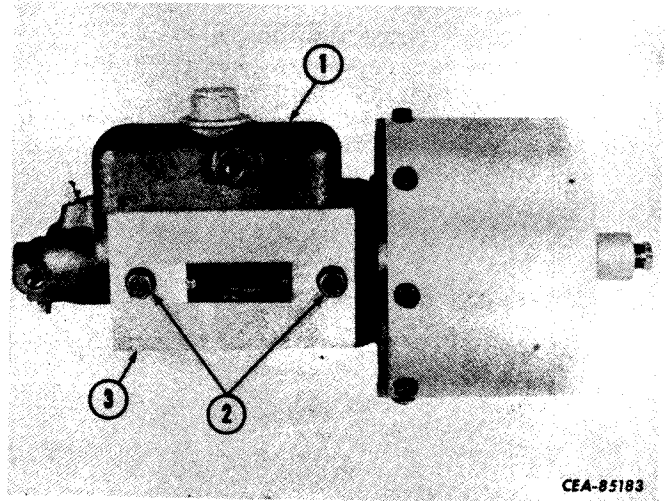

Figure 13-56
Remove cap screws and lock washers (2, Fig. 13-56) that attach the hydraulic cylinder (1) to the bracket (3).